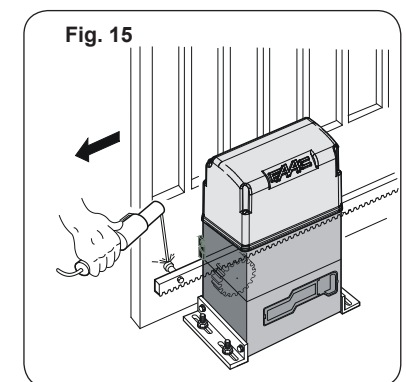

Fig. 15
- Lay the first piece of rack level on the pinion and weld the threaded dowel nut to the gate as shown in Fig. 15.